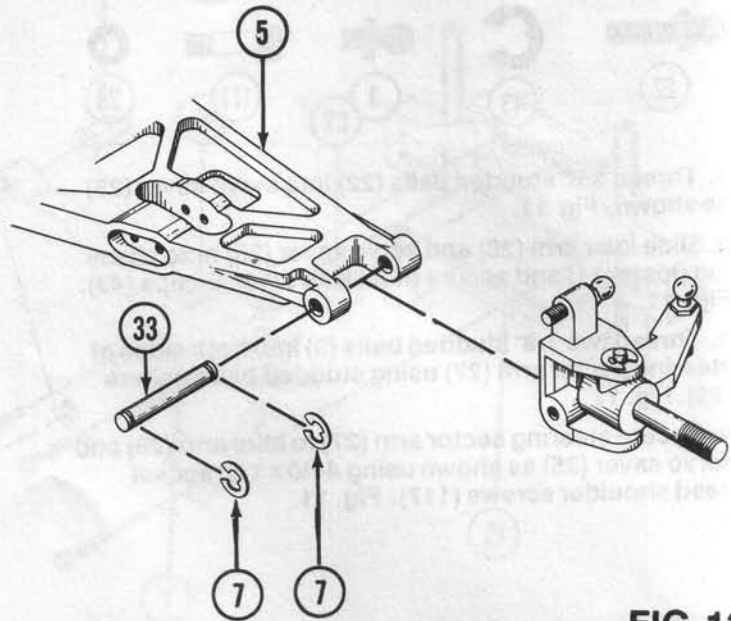

FIG. 13
8. Attach spindle carrier assembly to A-arms (5) using 1/8" x .960 hinge pin (33) secured by two 1/8" E-clips (7). Fig. 13.